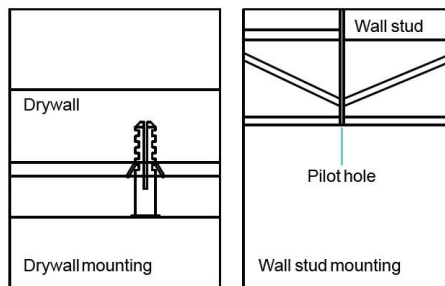

Figure 9
- If the mounting holes go through drywall without a stud, drill four small pilot holes by a 1/8" drill bit (not included) and install wall anchors (DD) into the holes with a hammer (not included). Install the four wood screws (CC) into the mounting surface but leave about a 3/8" gap between the screw head and mounting surface.
- If the mounting holes go through wall studs, drill four small pilot holes using a 5/32" drill bit (not included) for the wood screws (CC). Install the four wood screws (CC) into the mounting surface but leave about a 3/8" gap between the screw head and mounting surface. (Figure 9)